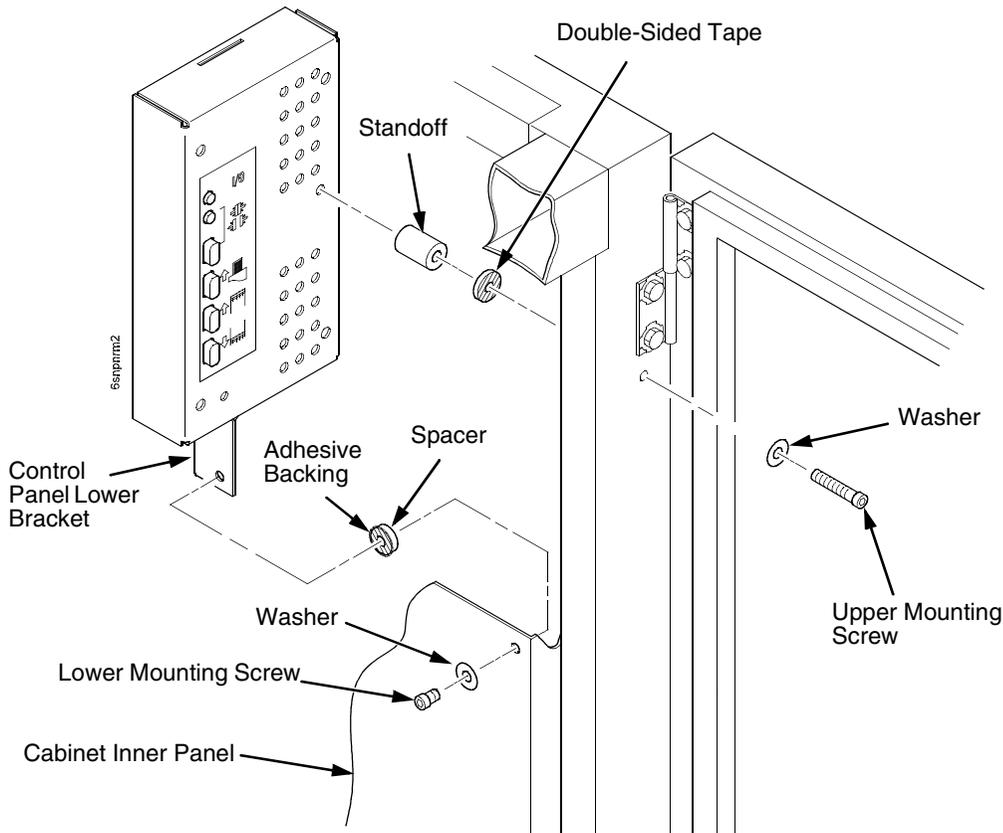

Figure 90. Installing the Stacker Control Panel
25. Apply the double-sided tape to one end of the control panel standoff. Remove the paper backing and hold the standoff inside the cabinet as you insert the upper mounting screw and washer through the hole in the frame. Use the screw as a guide to align the standoff with the hole, then press the standoff against the inside wall and push the upper screw in as far as it will go. Now maneuver the control panel into position and install the upper mounting screw finger tight in the control panel. (Figure 90.)
- 1) Peel the backing off the spacer adhesive. (Figure 90.)
- 2) Align the spacer with the holes in the lower bracket and inner panel. (Figure 90.)
- 3) Press the spacer adhesive against the inner panel. (Figure 90.)
27. Install the lower mounting screw and washer. Tighten the upper mounting screw. (Figure 90.)
- Rear Control Panel Assembly (Phase III): 174780-001 (Figure 90, page 394)